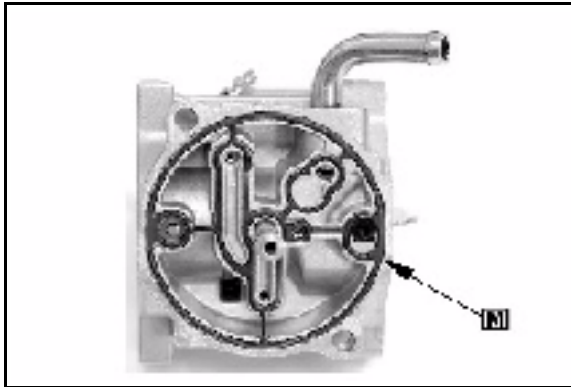

Fig. 134
- Remove the float base gasket ([M] Fig. 134) from the carburetor body.